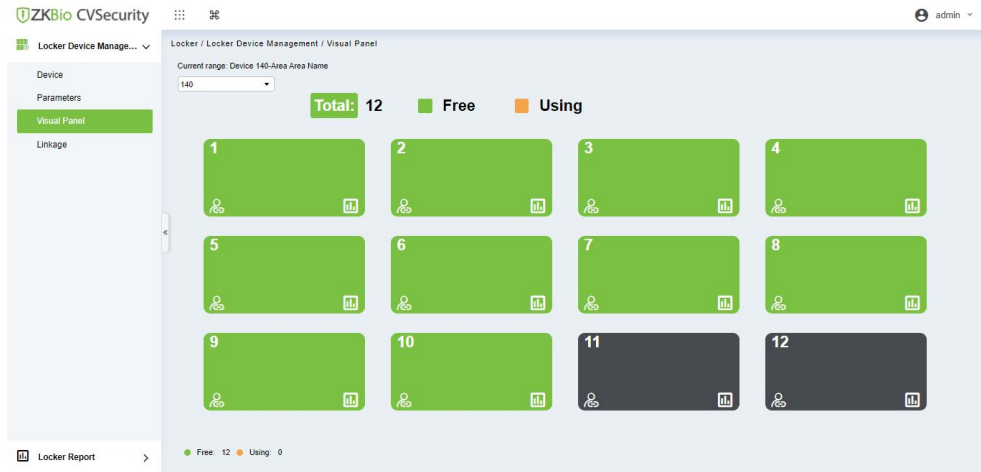

Figure 19-8 Visual Panel
Step 1: In the **Locker** module, select **Locker Device Management > Visual Panel**, as shown in figure 19-8.